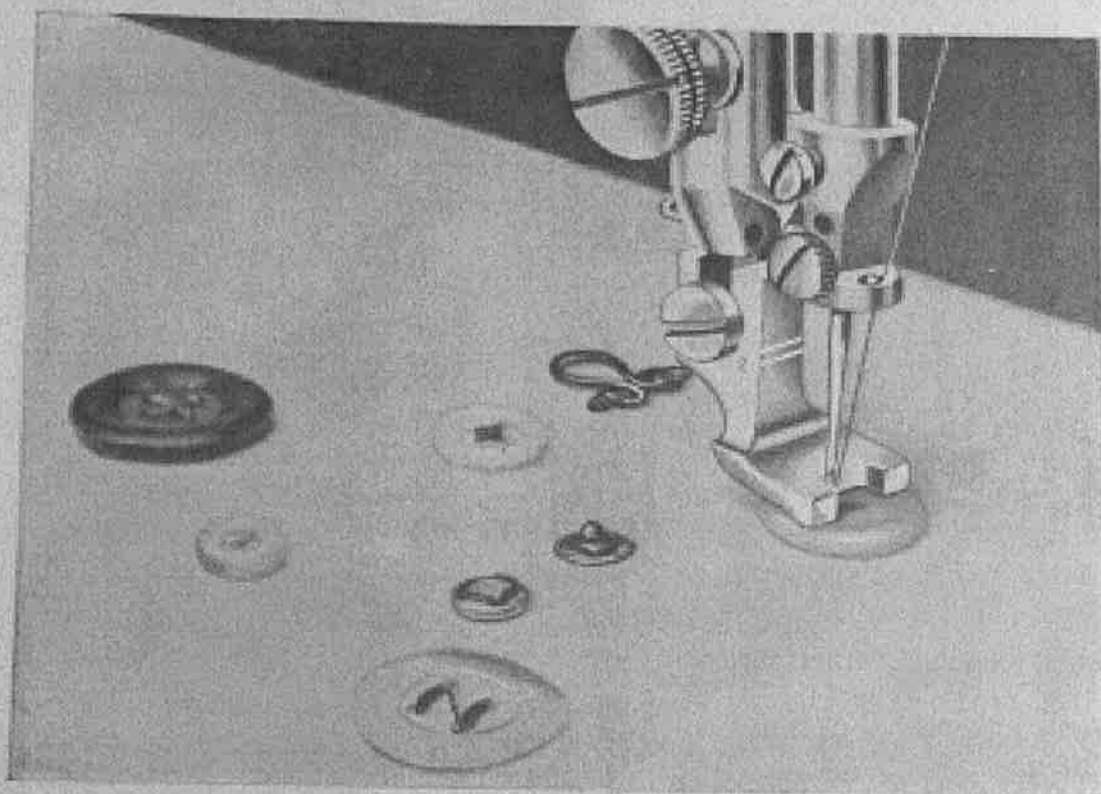

Fig. 33
2. Insert button presser foot, marked with two black stripes, and put the button under the presser foot, as shown in fig. 33.